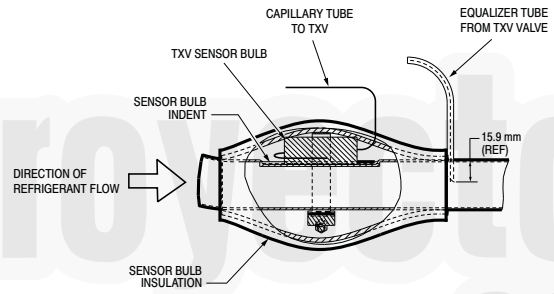

Fig. 19 – TXV Sensor Valve Insulation
10. Attach the TXV bulb in the same location as the original (in the sensing bulb indent), wrap the bulb in protective insulation and secure using the supplied bulb clamp. See Figs. 19 and 21.